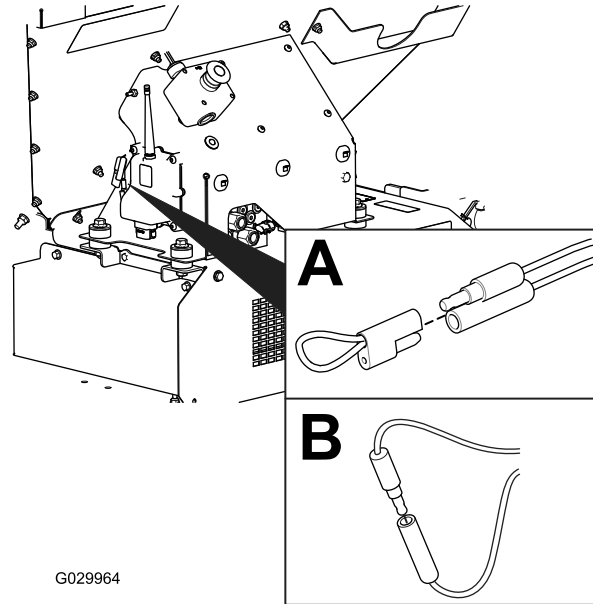

Figure 59
2. Pull the tethered cap off of the two diagnostic, shunt connectors (Figure 59, A).
3. Connect the diagnostic, shunt connectors together (Figure 59, B).
2. Disconnect the diagnostic, shunt connectors (Figure 59, B).
3. Push the tethered cap onto the two diagnostic, shunt connectors (Figure 59, A).